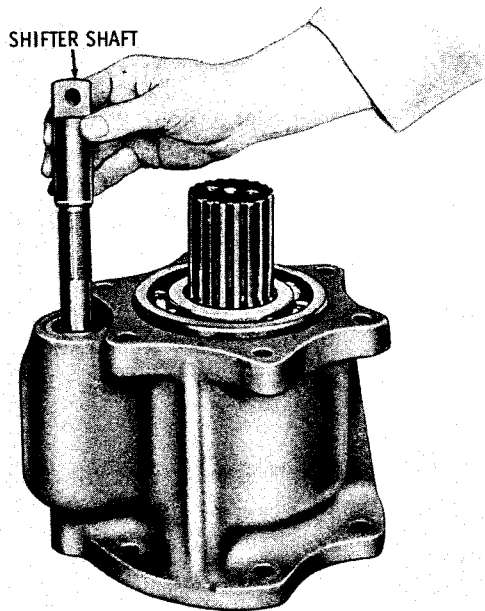

Fig. 6-1. Removing (or installing) PTO shifter shaft
(1) Flatten lock strip 32, and remove two bolts 33. Remove washer 31 and shims 30 (if used).
(2) Remove output flange 29. If the flange is interference fit, refer to paragraph 4-8a for removal procedures.
(3) Remove six bolts 27 (foldout 14) and washers 26. Remove bearing retainer 25 and gasket 24.
(4) Remove the shifter shaft (fig. 6-1).